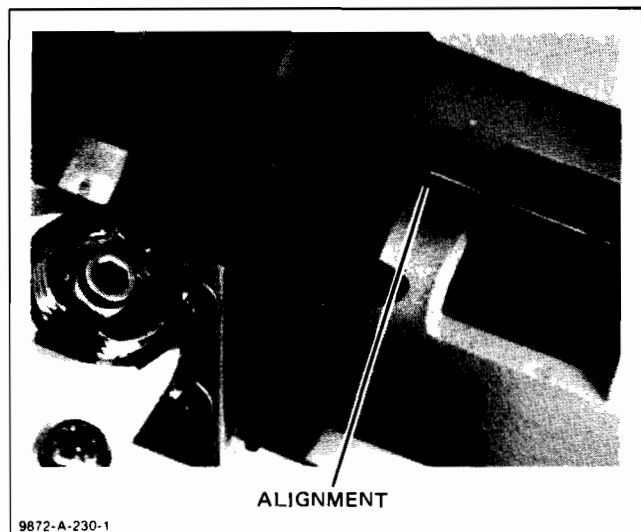

Figure 3-9. Alignment Position for Arm
- c. Position the pen claw so that it just touches the right end of the pen capper assembly of stall #8. See Figure 3-9.